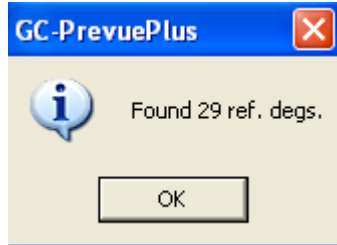

Figure 46
11. Click the header of the Reference Designators column in the Query list to sort the reference designators in Alpha-Numeric order (empty parts will be listed first, followed by the first alpha character). Manually correct any empty or incorrectly assigned reference designators – See Figure 46: